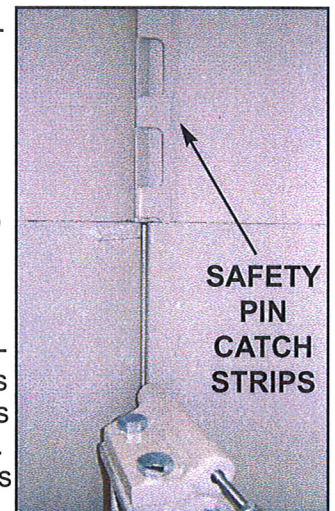

Figure 31
3. Run unit up approximately one foot and push red e-stop on push button station to confirm it works. Look at safety pins on top of carriage to ensure they will clear catch strips and are centered in slots in strip. If side-to-side adjustment is needed, loosen bolts and tap pin housing. Also, make sure pins are approximately 3/8" out of housing. See Figure 31.